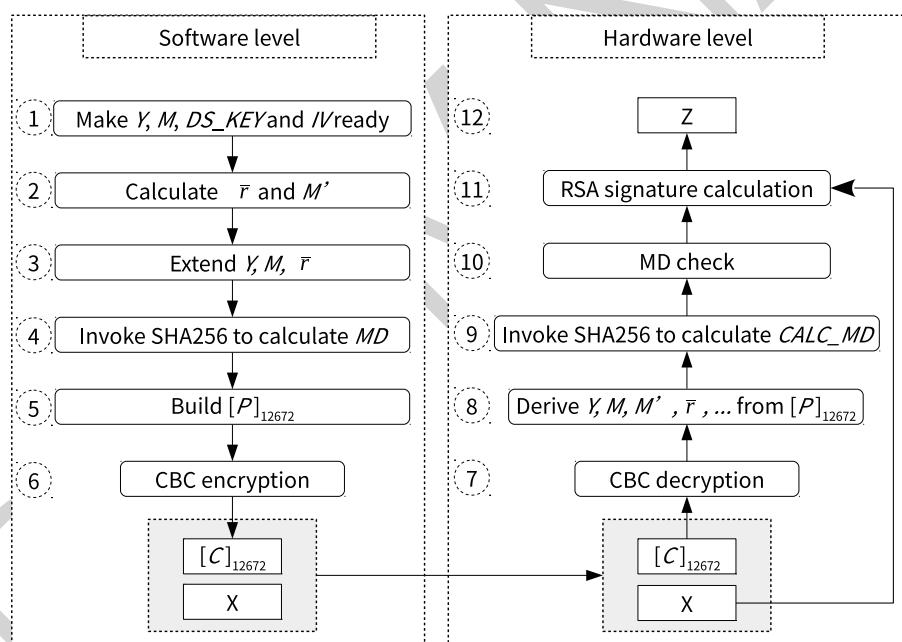

Figure 15-1. Software Preparations and Hardware Working Process
The left side of Figure 15-1 lists preparations required by the software before the hardware starts RSA signature calculation, while the right side lists the hardware workflow during the entire calculation procedure.
1. The software preparation (left side in the Figure 15-1) is a one-time operation before any signature is calculated, while the hardware calculation (right side in the Figure 15-1) repeats for every signature calculation.
Users need to follow the steps shown in the left part of Figure 15-1 to calculate C . Detailed instructions are as follows:
1. Decryption: Step 7 and 8 in Figure 15-1
The decryption process is the inverse of Step 6 in figure 15-1. The DS peripheral will call AES accelerator to decrypt C in CBC block mode and get the resulted plaintext. The decryption process can be represented by $P = AES\text{-}CBC\text{-}DEC(C, DS_KEY, IV)$, where IV (i.e., $[IV]_{128}$) is defined by users. $[DS_KEY]_{256}$ is provided by HMAC module, derived from $HMAC_KEY$ stored in eFuse. $[DS_KEY]_{256}$, as well as $[HMAC_KEY]_{256}$ are not readable by the software.
2. Check: Step 9 and 10 in Figure 15-1
The DS peripheral will perform two checks: MD check and padding check. Padding check is not shown in Figure 15-1, as it happens at the same time with MD check.
3. Calculation: Step 11 and 12 in Figure 15-1